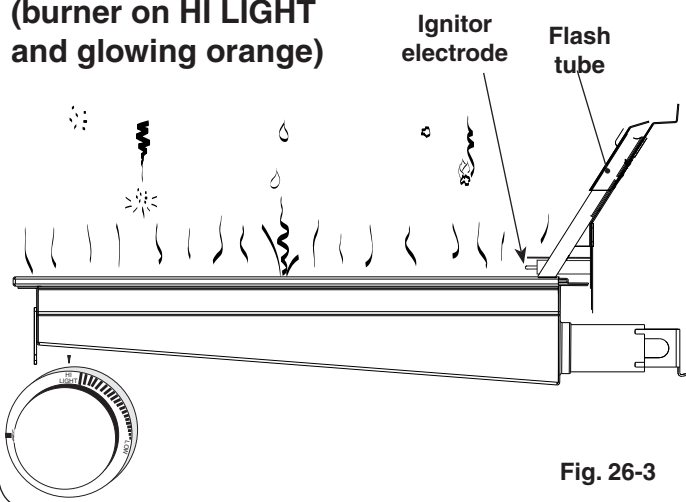

Fig. 26-3
- **DO NOT place food on the cooking grid until the IR burner glows orange (Fig. 26-3).** Drippings are heated and evaporate instead of sticking to and impairing burner function.